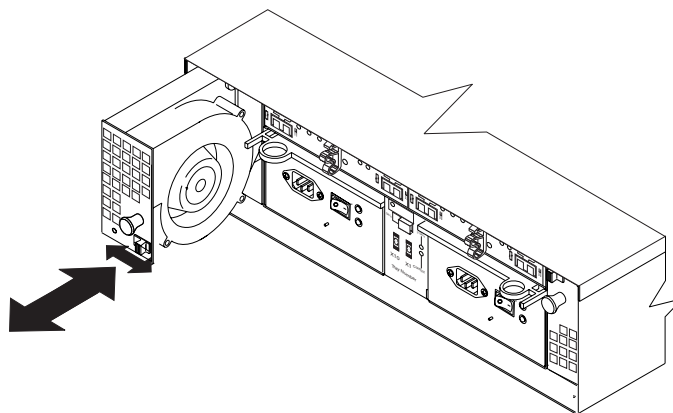

Figure 51. Replacing a hot-swap cooling fan
- b. Use the handle (black knob) to pull the fan from the fan bay, as shown in Figure 51 on page 102.